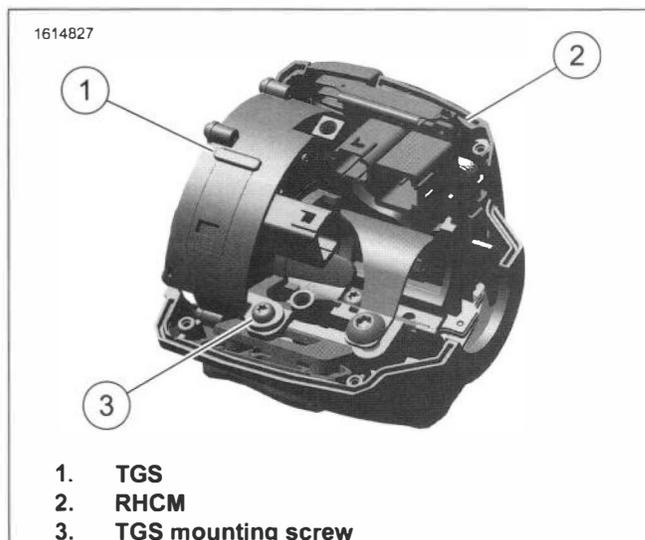

Figure 8-71. TGS
1. See Figure 8-71. Remove screw (3) and TGS (1).
1. See Figure 8-71. Install TGS (1). Secure with screw (3). Tighten.